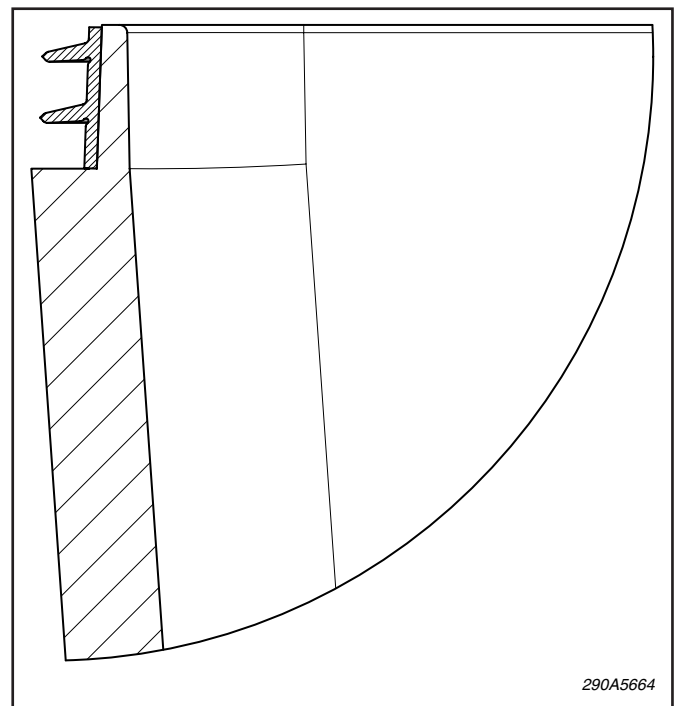

Figure 9.
J. *Lip Seal Replacement (see figure 9).*